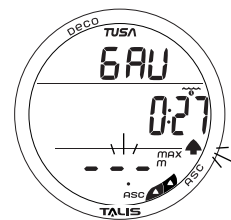

Fig. 85 - GAUG DV3 MAIN
**DV3 Main**, information includes (Fig. 85):